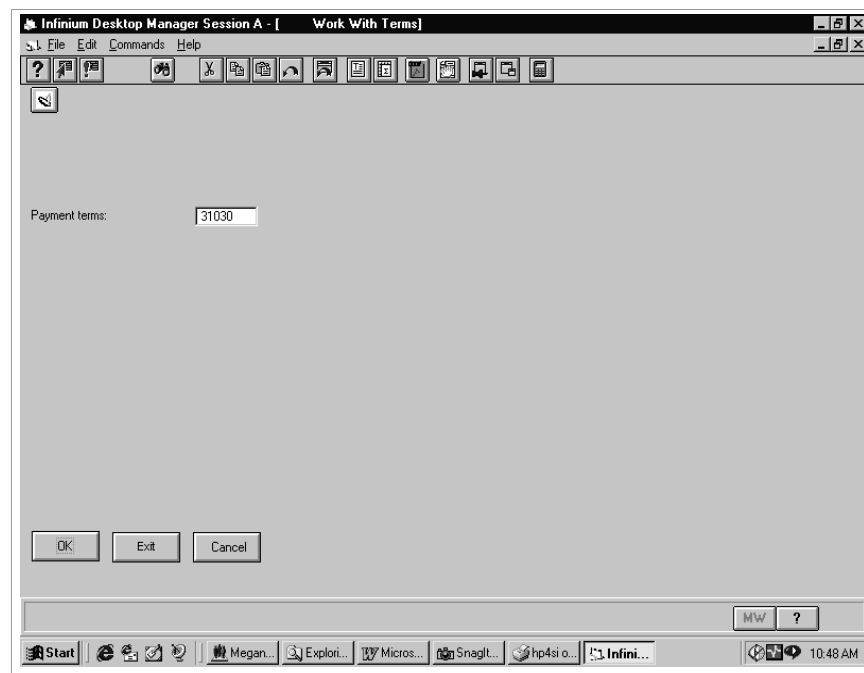

Figure 3-6: Work With Terms creation screen
- 3 You can press F6 to create a terms code or change an existing terms code. The system displays the screen shown in Figure 3-6 if you press F6.